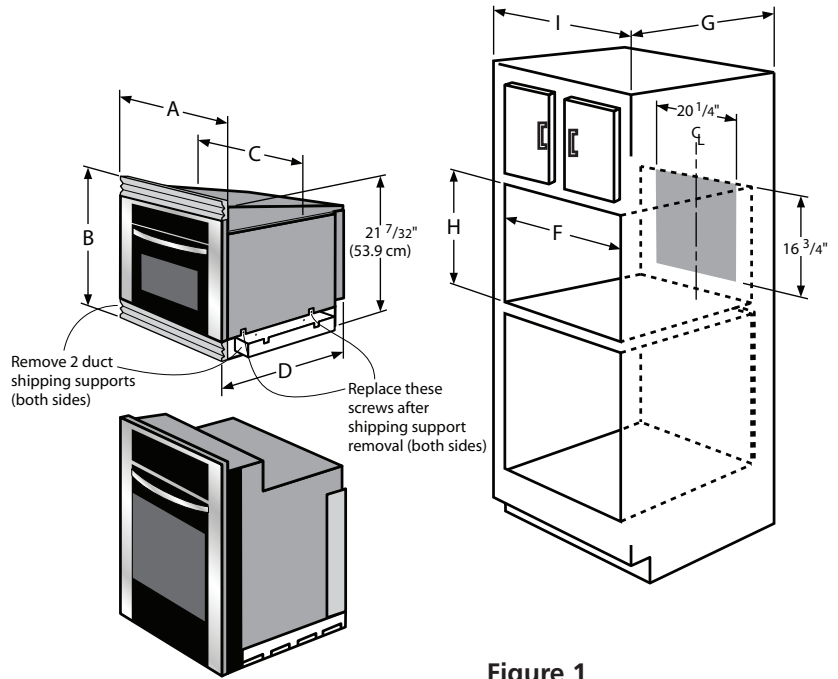

Figure 1
4. At the rear of the opening, provide a 3 pronged, polarized, electrical outlet, 240 volt A.C., 15 amp. or larger. This outlet should not be located in the shaded area of Figure 1. It is exceedingly important that the outlet be 240 volts and 15 amps. for optimum oven performance.
2. Remove all packing material from the oven compartments before connecting the electrical supply to the high speed oven. Remove the 2 shipping duct supports (see figure 1) by removing the 4 screws securing them. Reinsert 2 screws (each side) to secure the stainless cover.
Refer to figure 1 for the dimensions applicable to your appliance, and the space necessary to receive the oven. The oven support surface may be solid plywood or similar material, however the surface must be level from side to side and from front to rear.